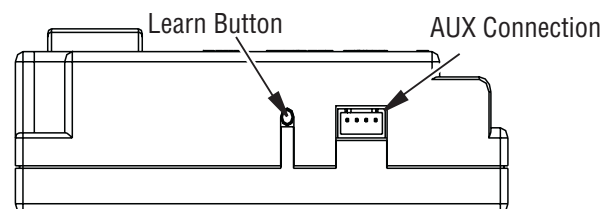

Figure 27 - Gas Module Left Side
1. There is a switch located on the right side of the module that reads REMOTE/OFF (**Figure 27**).
- To program the module (make sure the system has power), locate the learn button on left side as shown in **Figure 27, Page 15**. Press and release the learn button. There will be a beep sound from the module. Then press any button on the remote transmitter. Once the module's internal receiver accepts the transmitter code, there will be a series of confirming beeps.